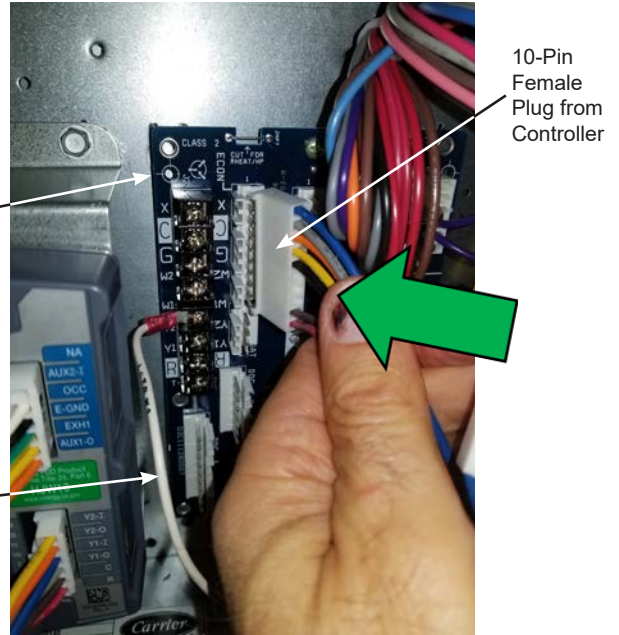

Figure 10 – Connect 10-Pin Jade Plug to Central Terminal Board
Step 13: Connect the 10-pin female plug from the Jade controller harness to ECON on the CTB. See Figures 10 and 23.
Step 14: Connect the White wire from the Jade controller harness to the W1 terminal on the CTB. See Figures 10 and 23.